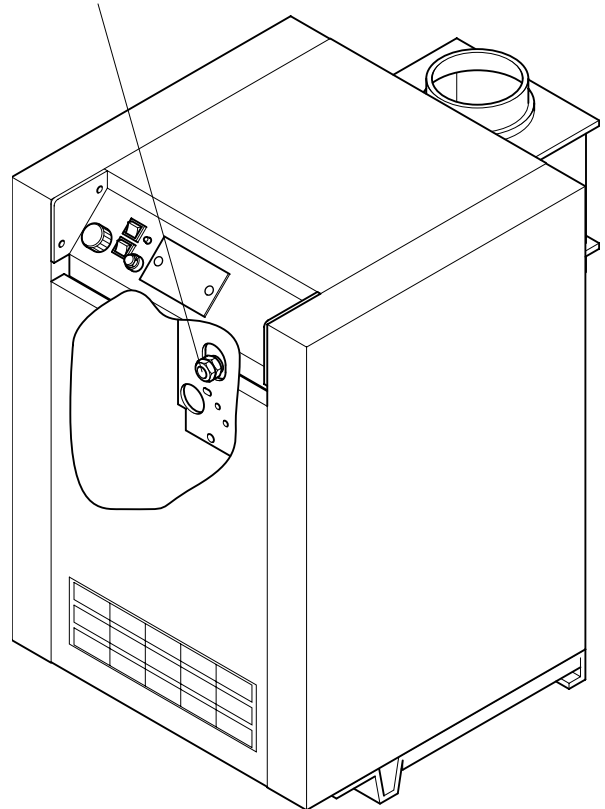

Fig. 3
- The boiler sensor is fitted into distributor pipe (see Fig. 3.).